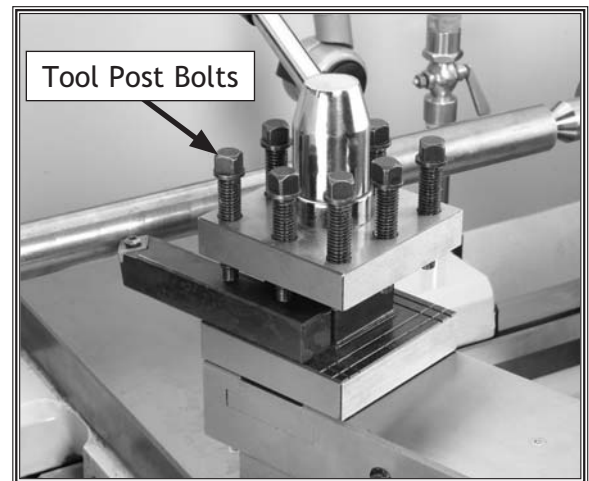

Figure 48. Tool holder and tool post.
3. Use a minimum of two tool post bolts to hold down the cutting tool and tighten firmly (see **Figure 48**).